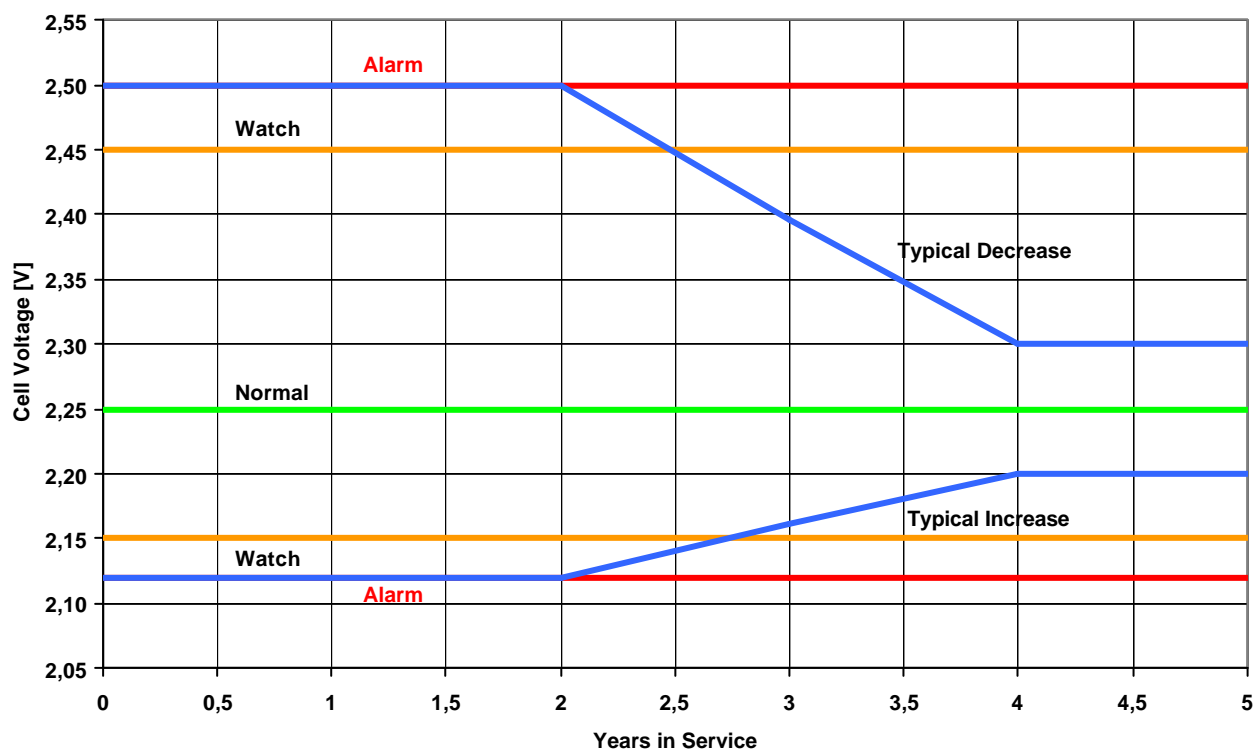

Fig. 6: Float Voltage Deviation in A 600 Batteries
- The individual cell or bloc float voltages may deviate within a string from the average value set as shown in figures 6, 7 and 8. These figures are representative as the variations and limits depends on the battery type and number of cells per monobloc. The following table gives an overview about all the battery types and their variations from the average value under float charge conditions. The “Typical Decrease” and “Typical Increase” is always equivalent to the progress shown in fig. 6 to 8.
Equalizing charges are required after deep discharges and/or inadequate charges or if the individual cell or bloc voltages are outside the specified range as shown in fig. 6, 7 and 8.